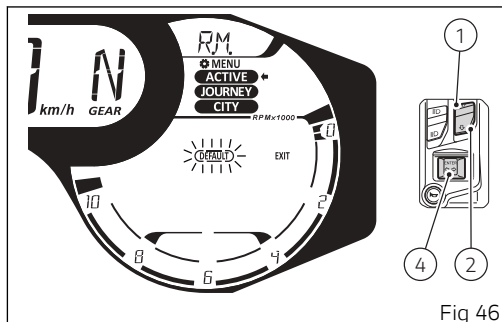

Fig 46
Press button (1) or (2), to select "DEFAULT" with flashing frame (Fig 46).